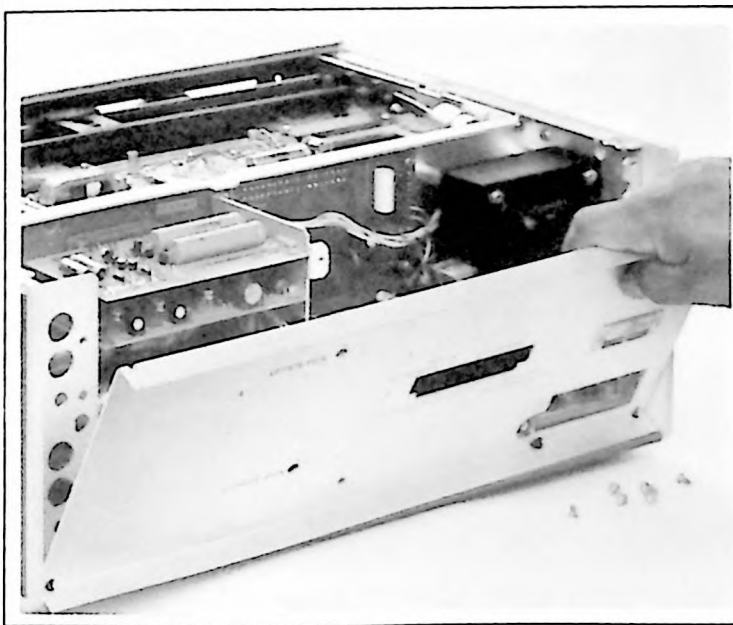

Figure 5-6. Back Cover Removal
d. Back Cover — A total of six screws must be removed. It is not necessary to remove side or top covers. See Figure 5-6.